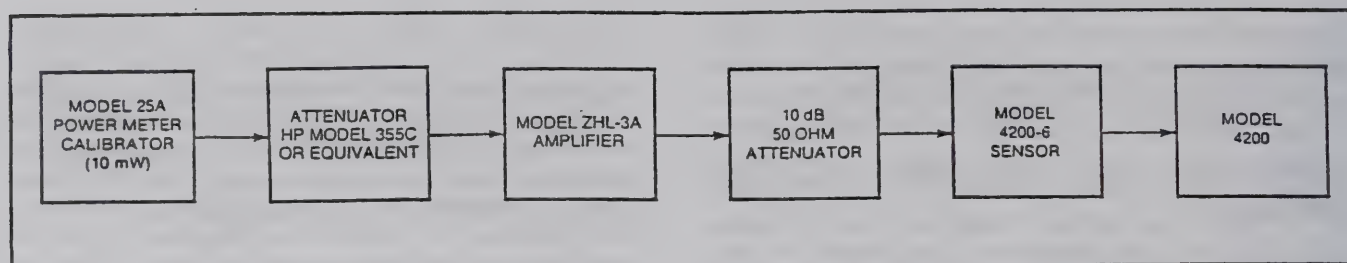

Figure 5-7. Test Setup for Determination of Attenuation Value
b. Connect the instrument and test equipment as shown in Figure 5-7. A small fan directed at the Model ZHL-3A will minimize drift. The exact attenuation of the 10 dB, 50 ohm attenuator must be known. If the exact attenuation is unknown, it can be determined with a reasonable degree of accuracy as follows:
c. Using the test setup shown in Figure 5-7, note and record the indication on the instrument display as the Model 25A output level is varied over the range of +10 dBm to +1 dBm. A tabular form as shown in Table 5-28 is recommended. In Table 5-28, the first column is the Model 25A output setting, and the second column lists indications typical of what might be expected. These two columns amount to a calibration of the Model 25A - Model ZHL-3A combination.
d. Remove the 10 dB attenuator from the test setup shown in Figure 5-7, and connect the 4200-6 sensor directly to the Model ZHL-3A. Set the Model 25A output to the levels listed in the first column of Table 5-28, and record the indications on the instrument display in the third column of the table. Ideally, the values listed in the third column will equal those listed in the second column plus the exact